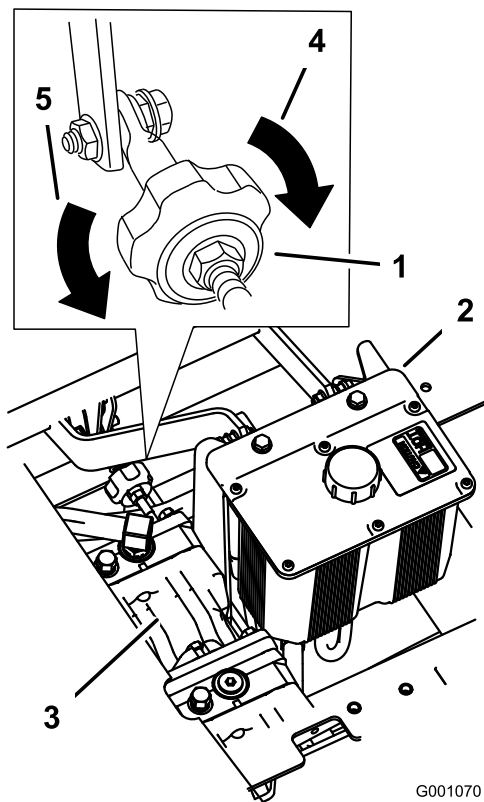

Figure 80
2. Adjust the pump rod length by rotating the knob, in the appropriate direction, until the wheel is still or slightly creeping in reverse (Figure 80).